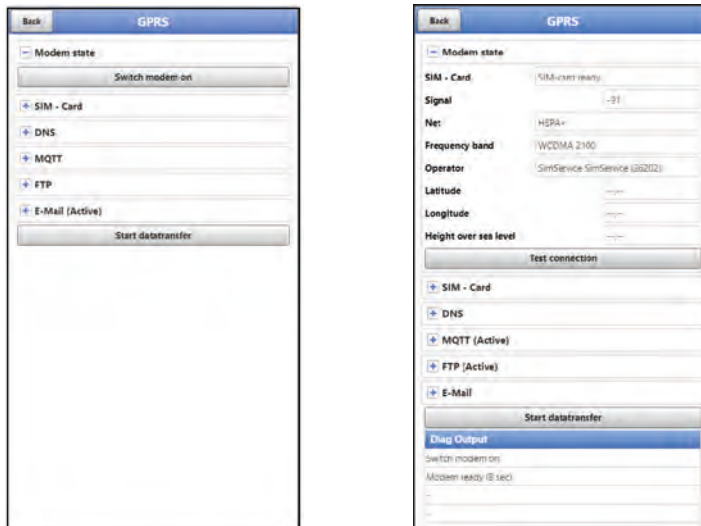

Fig. 39-3 Modem state / SIM-Card state
2. Wait until the device has found and entered the correct GPS coordinates (latitude/longitude) in the menu (see Fig. 39-3). This may take up to several minutes.